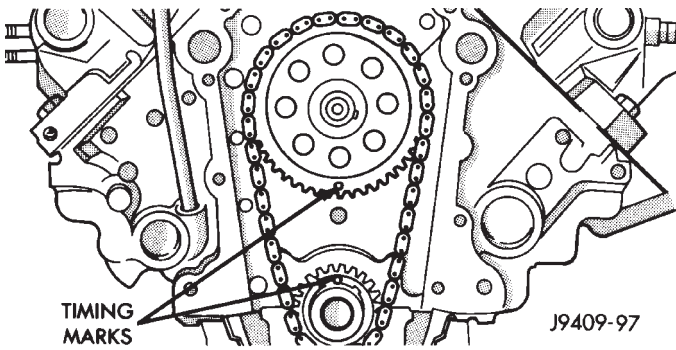

Fig. 31 Alignment of Timing Marks
- (3) Hold tool in position with a distributor lock-plate bolt. This tool will restrict camshaft from being pushed in too far and prevent knocking out the Welch plug in rear of cylinder block. **Tool should remain installed until the camshaft and crankshaft sprockets and timing chain have been installed.**
- (4) Install camshaft thrust plate and chain oil tab. **Make sure tang enters lower right hole in thrust plate.** Tighten bolts to 24 N·m (210 in. lbs.) torque. Top edge of tab should be flat against thrust plate in order to catch oil for chain lubrication.
- (5) Place both camshaft sprocket and crankshaft sprocket on the bench with timing marks on exact imaginary center line through both camshaft and crankshaft bores.
- (6) Place timing chain around both sprockets.
- (7) Turn crankshaft and camshaft to line up with keyway location in crankshaft sprocket and in camshaft sprocket.
- (8) Lift sprockets and chain (keep sprockets tight against the chain in position as described).
- (9) Slide both sprockets evenly over their respective shafts and use a straightedge to check alignment of timing marks (Fig. 31).
- (10) Install the camshaft bolt/cup washer. Tighten bolt to 68 N·m (50 ft. lbs.) torque.
- (11) Measure camshaft end play. Refer to Specifications for proper clearance. If not within limits install a new thrust plate.
- (12) Each tappet reused must be installed in the same position from which it was removed. **When camshaft is replaced, all of the tappets must be replaced.**